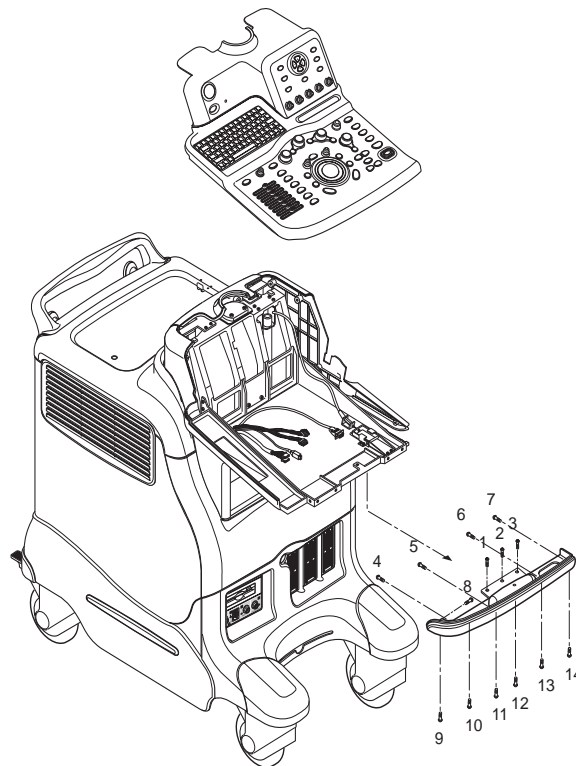

Figure 8-21 Removing Keyboard Front Grip
- 1.) Unscrew fourteen (14) screws (1-14). Refer to Figure 8-21.